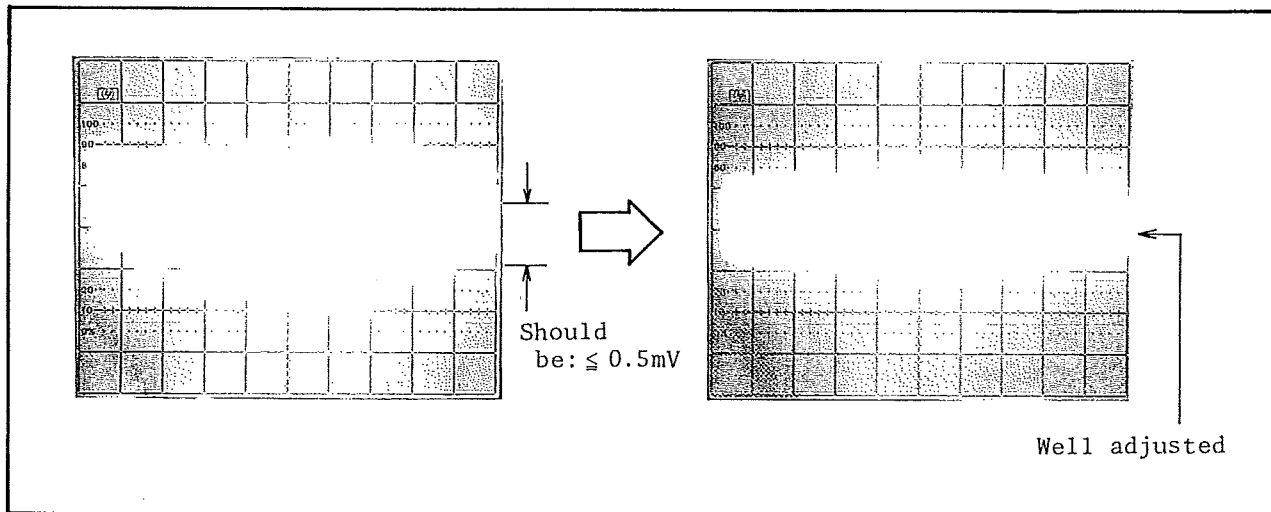
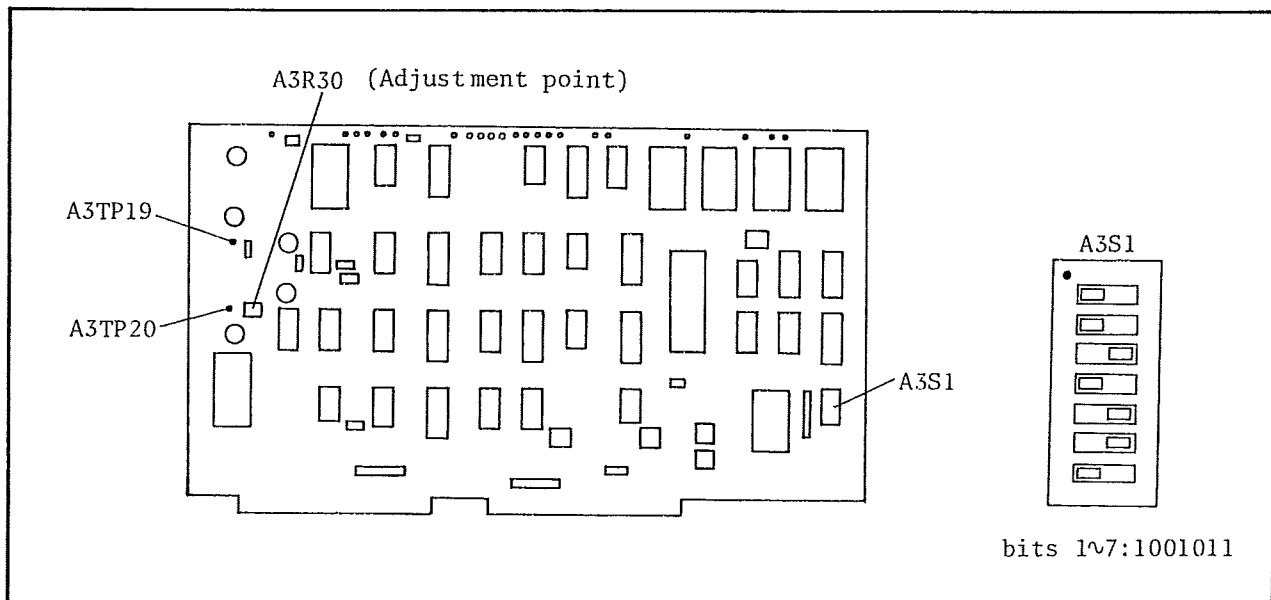

Figure 5-9. AC Offset Adjustment.
Figure 5-10. Check/Adjustment Point Locations.
2. Set A3S1 (SW1) to 1001011. See Figure 5-10 for the location of A3S1.
4. Connect the channel A or B input to A3TP19 and the EXT TRIGGER input to A3TP20 (see Figure 5-10 for the locations). Obtain channel A or B input GND (ground) from A3TP3.
7. Adjust A3R30 (see Figure 5-10 for the location) until the height of the pulse at A3TP19 is minimized (less than 0.5mV) as shown in Figure 5-9.